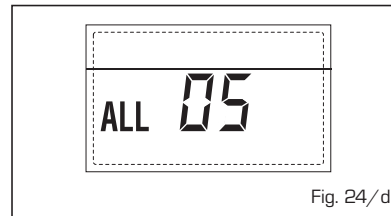

Fig. 24/d
**- BLOCCO FIAMMA "ALL 06"** (fig. 24/e)